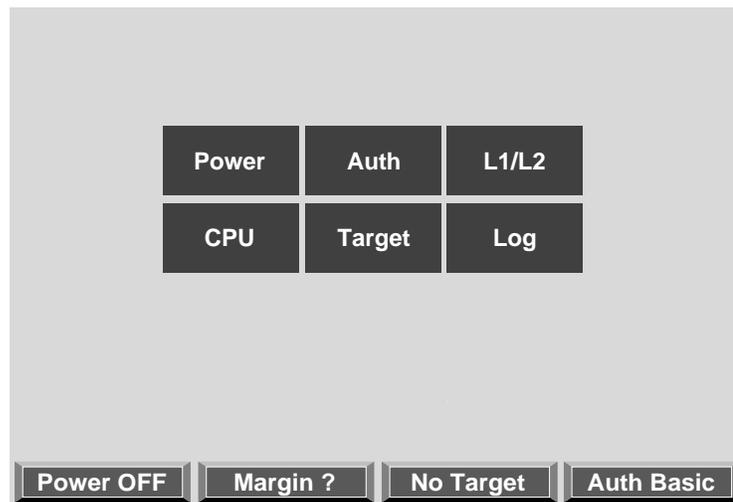

Figure 2-18 Home Window
1. Select **Power** from the home window shown in Figure 2-18.